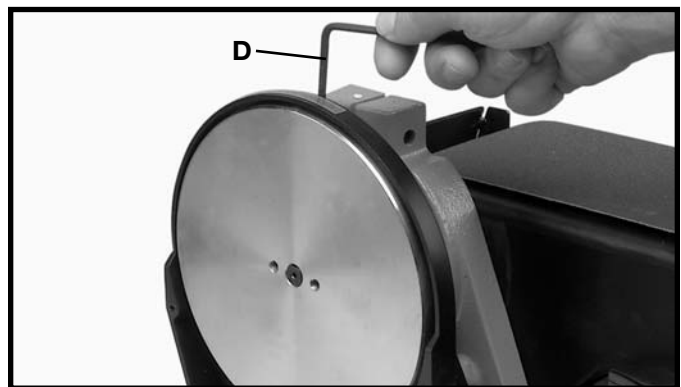

Fig. 8
3. Insert the 1/8" hex wrench (D) Fig. 8, down through slot in the back of belt and pulley guard and tighten set screw against flat on shaft.